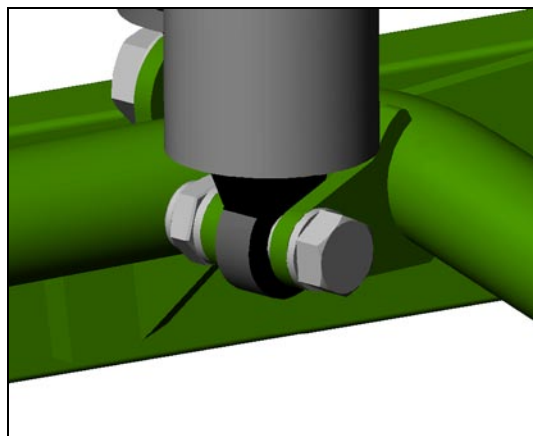

Figure 29
- Lower Hardware (center shock). Figure 29